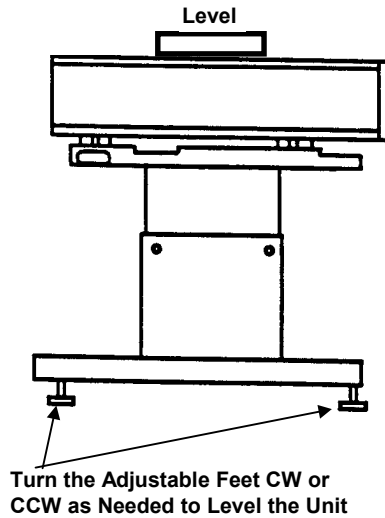

Figure 4 Leveling the Stacker
5. (Figure 4) Level the Stacker from front-to-back by adjusting the four (4) Adjustable feet CW or CCW as required.